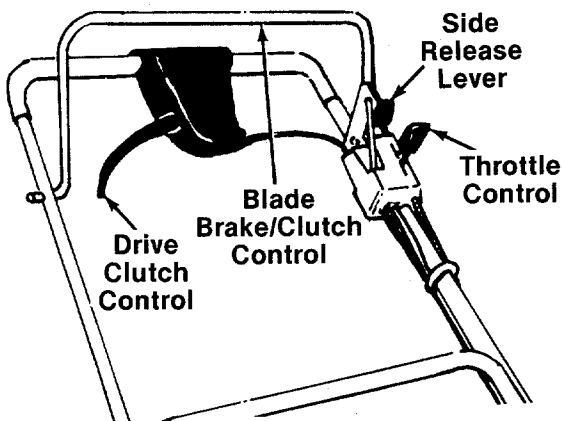

FIGURE 21.
The throttle is located on the left side of handle. It controls engine speed. See figure 21.
The blade brake/clutch control is located on the upper handle of the mower. The blade brake/clutch handle engages and disengages the blade. To engage the blade, pull the side release lever away from the unit. See figure 21. Pull the blade brake/clutch control handle against the upper handle. Release side lever.
Squeezing the drive clutch control engages the drive mechanism to the rear wheels. Releasing the clutch control stops the rear wheels from driving. Release the drive clutch control to slow down when negotiating an obstacle, making a turn or stopping. See figure 21.
2. To engage the blade, pull the side release lever away from the unit. Pull the blade brake/clutch control handle down against the upper handle. Release the side lever. See figure 21.